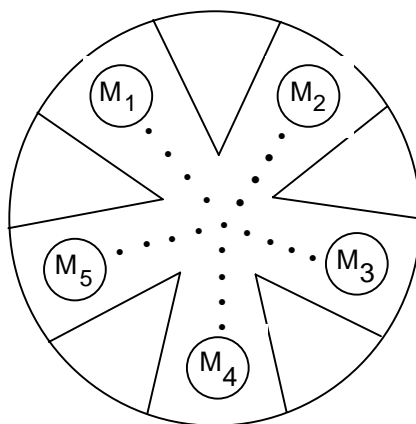

Figure 1
The main objective of this experiment is to establish the reduction potentials of five unknown metals relative to an arbitrarily chosen metal. This will be done by measuring the voltage, or potential difference, between various pairs of half-cells. A voltaic cell utilizes a spontaneous oxidation-reduction reaction to produce electrical energy. Half-cells are normally produced by placing a piece of metal into a solution containing a cation of the metal (e.g., Cu metal in a solution of  $\text{CuSO}_4$  or  $\text{Cu}^{2+}$ ). In this micro-version of a voltaic cell, the half cell will be a small piece of metal placed into 3 drops of solution on a piece of filter paper. The solution contains the cation of the solid metal. Figure 1 shows the arrangement of half-cells on the piece of filter paper. The two half-reactions are normally separated by a porous barrier or a salt bridge. Here, the salt bridge will be several drops of aqueous  $\text{NaNO}_3$  placed on the filter paper between the two half cells. Using the computer as a voltmeter, the (+) lead makes contact with one metal and the (-) lead with another. If a positive voltage is recorded on the screen, you have connected the cell correctly. The metal attached to the (+) lead is the cathode (reduction) and thus has a higher, more positive, reduction potential. The metal attached to the (-) lead is the anode (oxidation) and has the lower, more negative, reduction potential. If you get a negative voltage reading, then you must reverse the leads. By comparing the voltage values obtained for several pairs of half-cells, and by recording which metal made contact with the (+) and (-) leads, you can establish the reduction potential sequence for the five metals in this lab.
3. Obtain a piece of filter paper and draw five small circles with connecting lines, as shown in Figure 1. Using a pair of scissors, cut wedges between the circles as shown. Label the circles  $M_1$ ,  $M_2$ ,  $M_3$ ,  $M_4$ , and  $M_5$ . Place the filter paper on top of the glass plate.